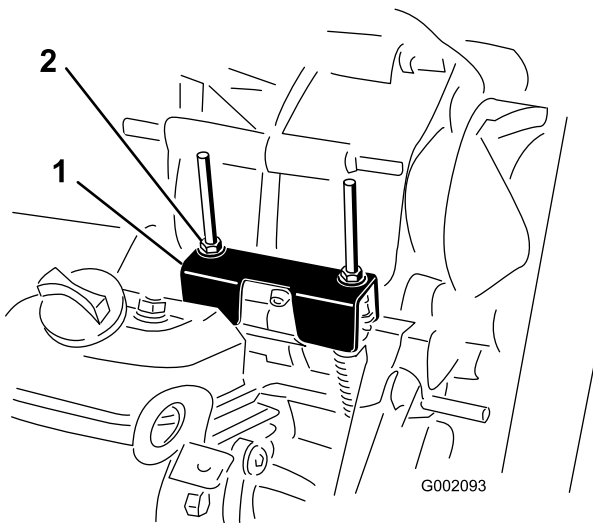

Figure 58
When performing routine maintenance and/or engine diagnostics, the transaxle must be shifted into neutral (Figure 58). The vehicle has a neutral position on the shift lever, which controls the neutral in the transaxle. The following steps should be taken to make sure that the neutral shift lever operates the transaxle neutral correctly:
2. Ensure that the neutral bracket is in the neutral position (level to the cable mounting bracket located below the shift bracket) by turning the driven clutch (Figure 58).
3. Rotate one of the locknuts (Figure 58) to achieve a 0.762 to 1.524 mm (0.030 to 0.060 inch) gap between the bottom of the nut/washer and the neutral bracket.